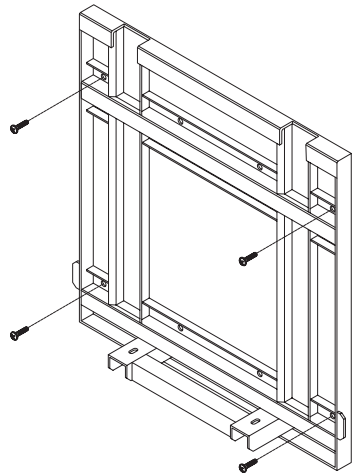

Fig. 5: Wall mount installation
- Using four 3/8" expansion screws, attach the wall-mounting bracket between 2'ft (600mm) and 4'ft (1.2m) above the floor (see Fig. 5).